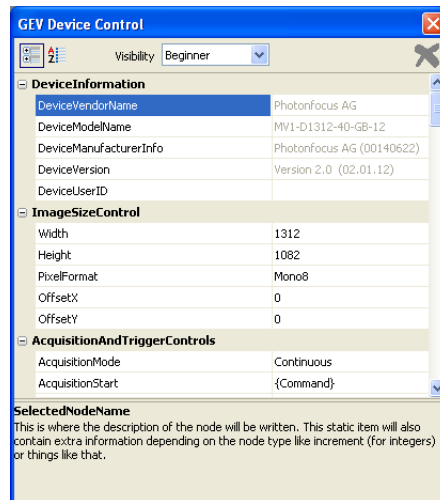

Figure 3.15: Control settings on the camera
8. Camera parameters can be modified by clicking on GEV Device control (see Fig. 3.15). The visibility option Beginner shows most the basic parameters and hides the more advanced parameters. If you don't have previous experience with Photonfocus GigE cameras, it is recommended to use Beginner level.